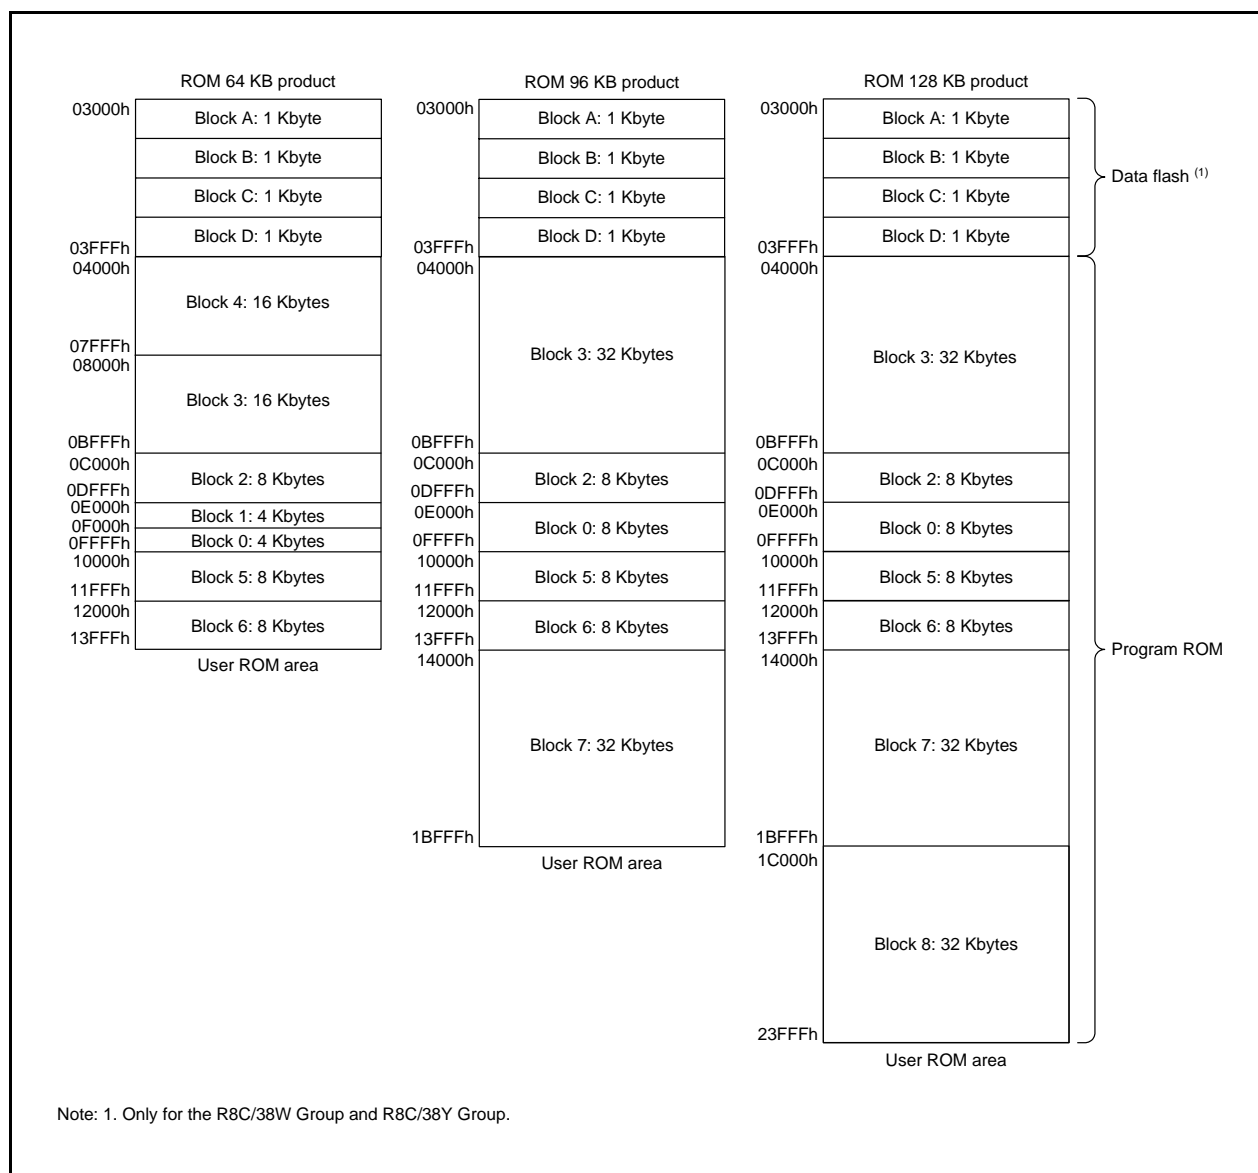

Figure 30.1 Flash Memory Block Diagram of this MCU
3. The number of blocks and block division vary with the MCU. Refer to **Figure 30.1 Flash Memory Block Diagram of this MCU** for details.
Figure 30.1 shows the Flash Memory Block Diagram of this MCU.